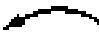

Figure 18
- Press and hold the receiver's reset button (see figure 18) until you hear two beeps. After the second, longer beep, release the reset button.